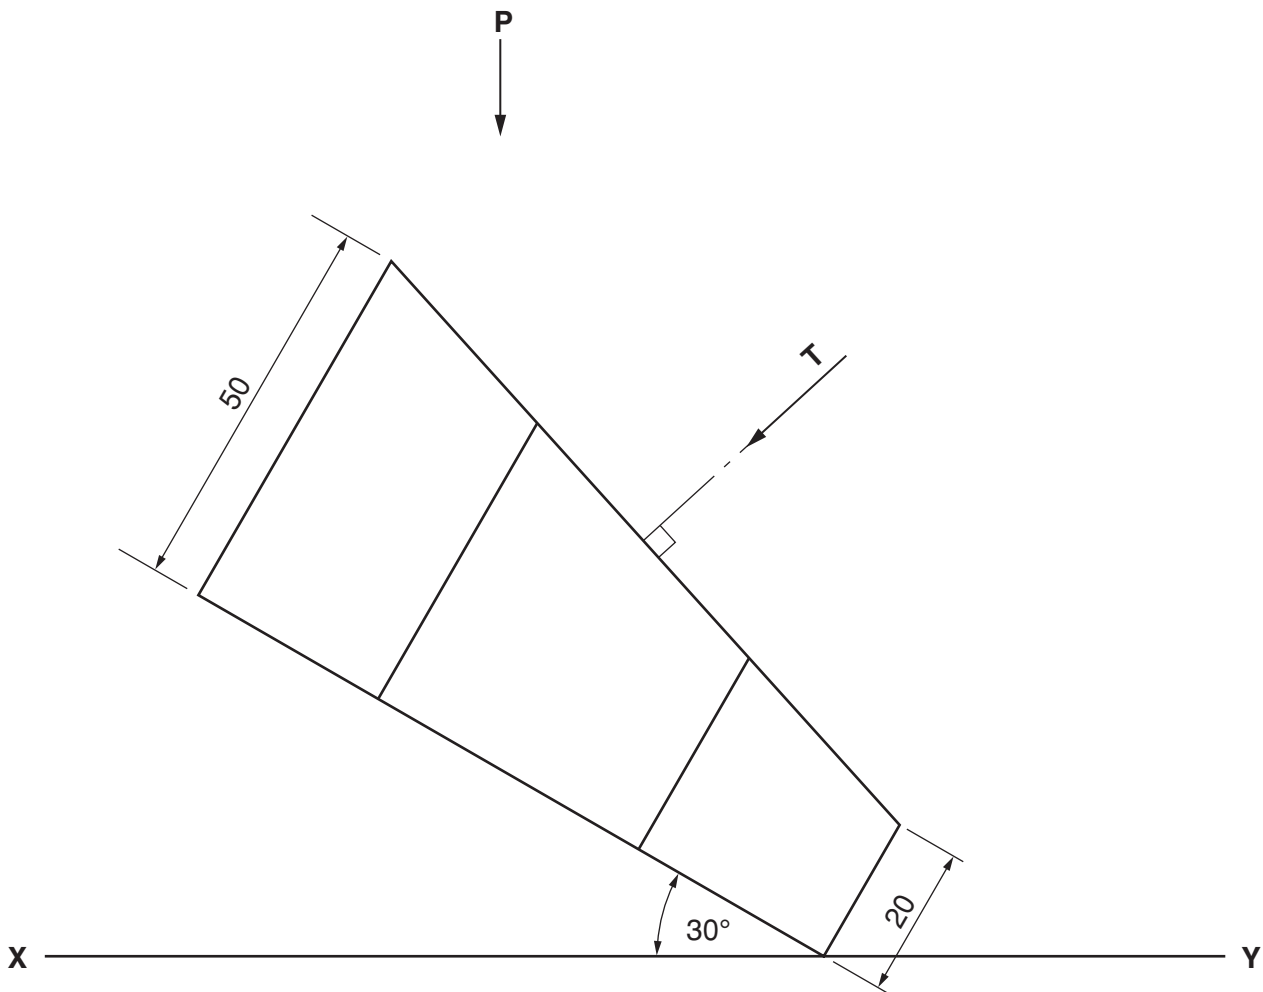

Fig. 8
- 8 Fig. 8 shows the elevation of a truncated regular octagonal prism with sides 40 mm long.